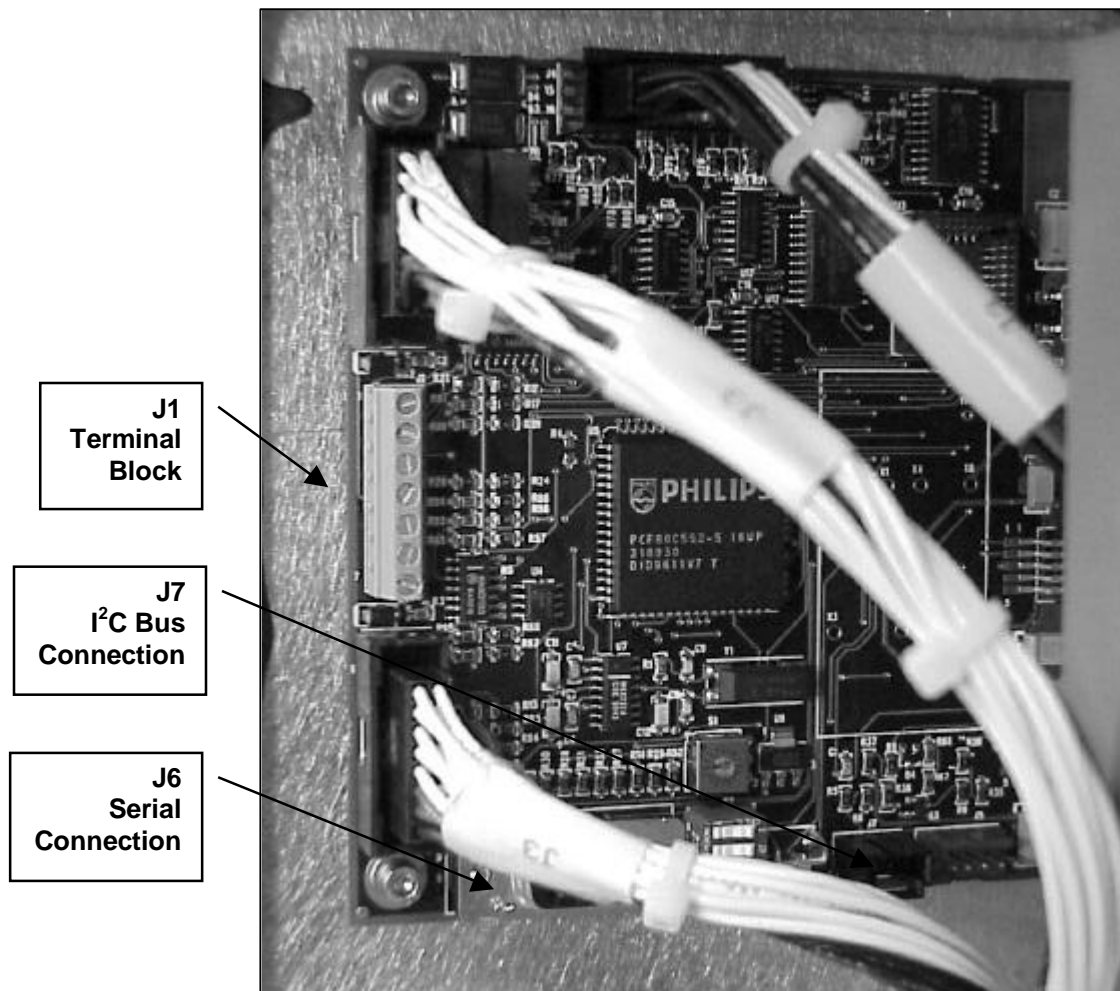

Figure 3-4. Logic Controller Board
1. Using the supplied serial cable, connect the PC COM PORT to J-1 on the controller board (see Figure 3-4 on Page 22).